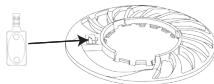

Figure 4
3. 3. 3. If the pump is required to operate at zero suction, the sensor in Figure 1 should be mounted on the pump foot in Figure 4.